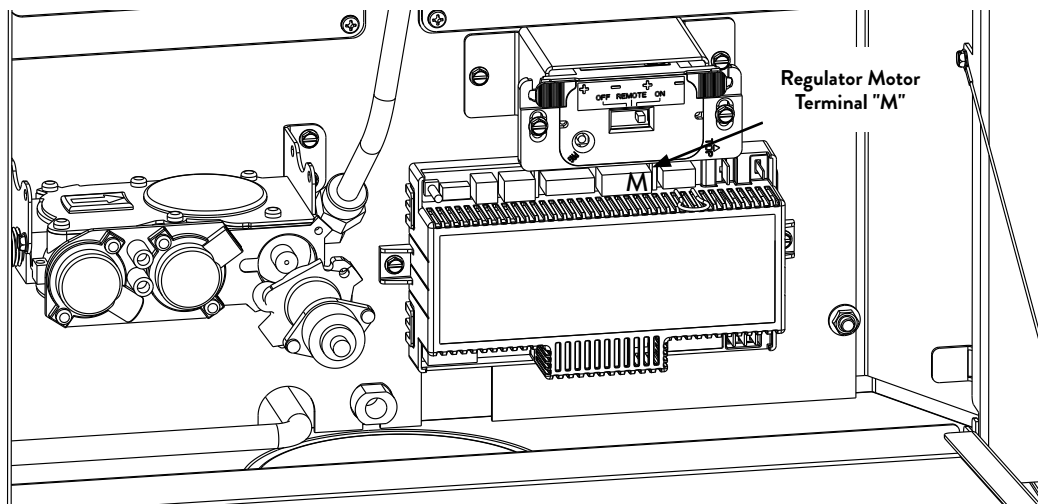

Figure 7.4.
- Disconnect the Regulator motor wire harness lead from module Terminal "M", fig. 7.4
- Connect the motor leads to Terminal "M" on the IFC. See Figs. 7.4 - 7.5.